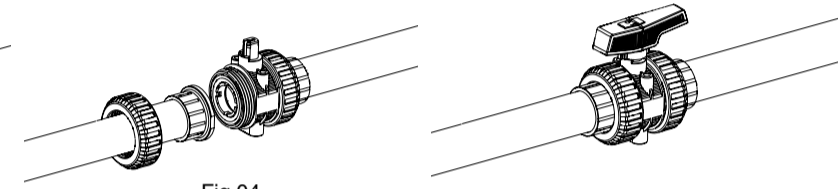

Fig.03
3. Leave an exact distance between end connectors (see Fig.03), so that the body of the valve can be easily introduced, preventing it from being strained by both ends of the tubing.